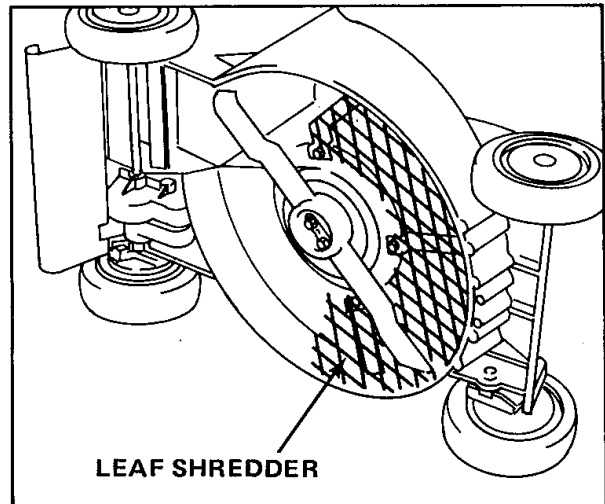

Figure 38
3. Leaf Shredder Kit, Model No. 59180—Installs on underside of mower in minutes without requiring removal of blade. Shreds leaves into small pieces for clean vacuuming into grass bag and convenient disposal (Fig. 38).